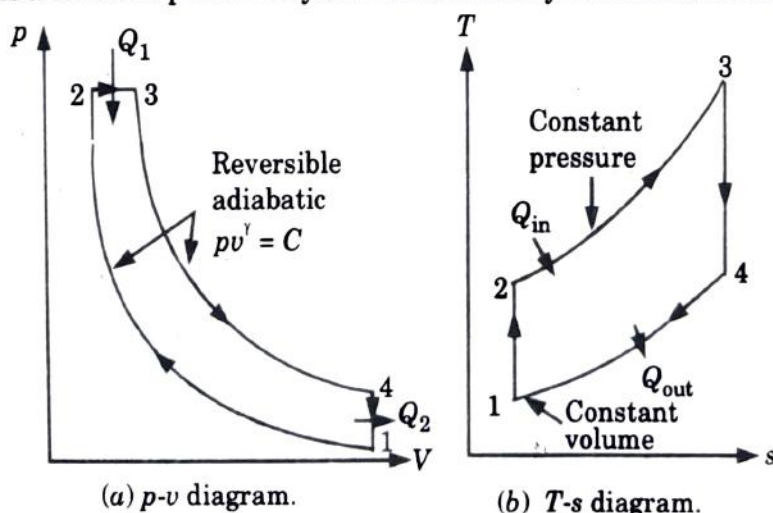

Fig. 1.15.1.
2. $p-v$ and $T-s$ diagram of this cycle are shown in Fig. 1.15.1(a) and (b) respectively. This cycle consists of following processes :